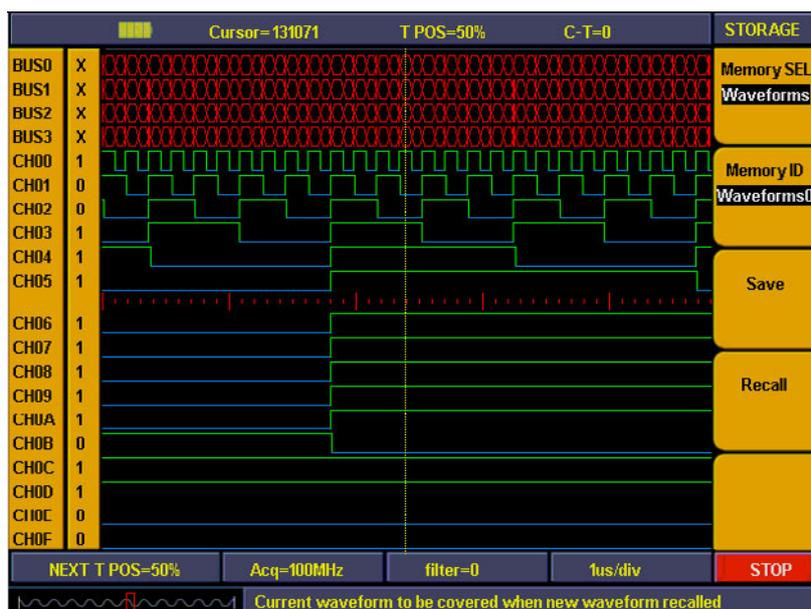

Figure 95. Waveform saving.
- 8 Press "F4" to recall the memory waveform or settings (refer to Fig. 95).